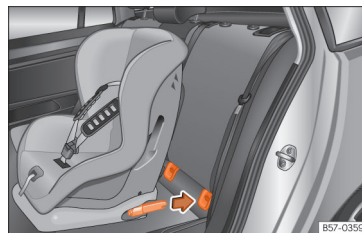

Fig. 30 Rear seats: fitting a child seat with the ISOFIX system.
- Press the child seat onto the "ISOFIX" retaining rings until the child seat can be heard to engage securely »» Fig. 30. If the child seat is equipped with Top Tether anchor points, secure it to the correspondent ring »» page 35. Observe the manufacturer's instructions.